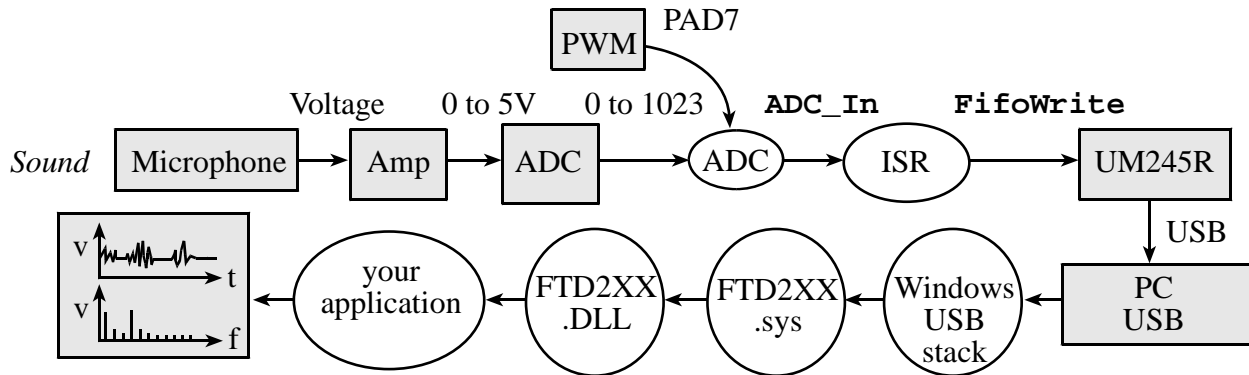

Figure 4.1. Data-flow graph of the digital scope and spectrum analyzer.
This lab builds upon the audio recording system developing in Lab 2. Figure 4.1 shows the data-flow graph of the digital scope and spectrum analyzer system. The electret microphone is a low-cost low-fidelity transducer appropriate for voice recording. An analog band-pass filter will be used to improve signal to noise ratio and to prevent aliasing. You will use an ADC converter on the 9S12 to convert the analog signal into digital form. You are free to choose any sampling rate ( $f_s$ ) you wish, as long as the sampling is performed in real time. The periodic ISR creates the real time sampling, and data is written into a *Fifo* queue located in the DLP Designs UM245R module. This module is based on the chip FT245R made by FTDI (Future Technology Devices International Ltd.). The data is then transmitted to the PC using a USB interface. Windows, a device driver (FTD2XX.sys) and an application programmer interface (FTD2XX.DLL) are provided. You will write an application that runs on the PC displaying the data. Start and stop commands can be sent from your application on the PC to the 9S12 allowing the PC to control activity on the microcontroller. The measurements are displayed on the PC in both time-domain and frequency-domain formats.
2. Write a main program that implements the data flow as described in Figure 4.1. Add debugging instruments that you can use to verify the sampling is performed in real time. In particular quantitatively measure the sampling jitter of your system.